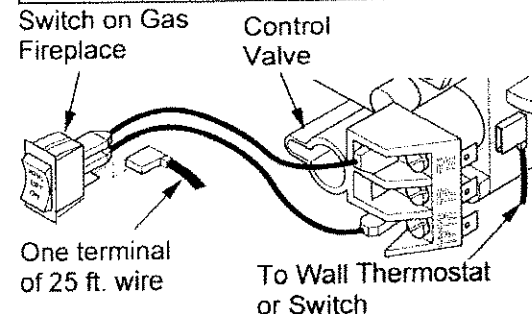

Figure 32 - Connecting Wire Terminals
1. Connect one terminal of 25 ft. wire to bottom contact of switch (see Figure 32).
2. Connect remaining wire terminal to the "TH" terminal on the control valve. Make sure that wire terminals are in the positions on your unit as pictured in Figure 32. If wires are not "crossed" the thermostat will not work.
1. Connect one terminal of 25 ft. wire to bottom contact of switch (see Figure 32, page 20).
2. Connect remaining wire terminal to the "TH" terminal on the control valve. Make sure that wire terminals are in the positions on your unit as pictured in Figure 32, page 20. If wires are not "crossed" the thermostat will not work.